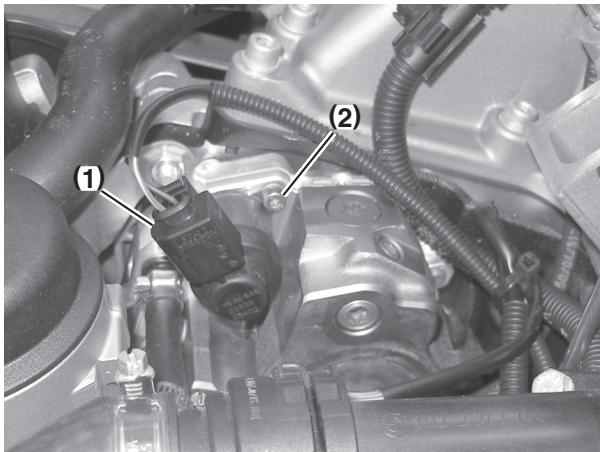

Figure 12-34
5. Disconnect electrical connector (**Figure 12-34, (1)**). **NOTICE:** Immediately cap or plug all openings to prevent contamination of system
6. Remove three screws (**Figure 12-34, (2)**).